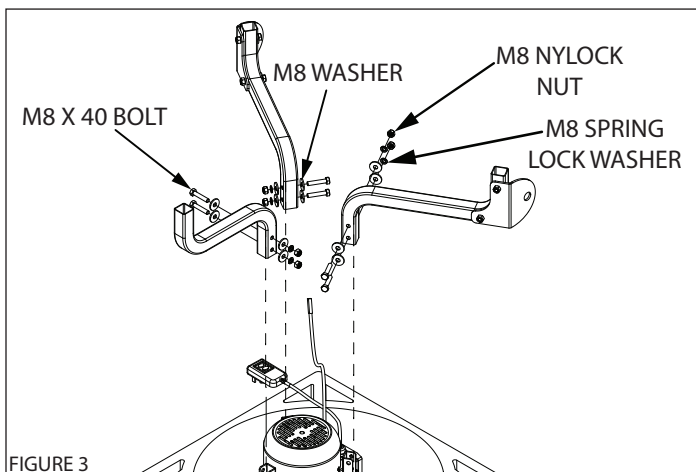

FIGURE 3
5. Assemble legs to gear-motor/feather pan assembly. (**SEE FIGURE 3**)
NOTE: Each leg is unique and not interchangeable. The long legs with the axle brackets attached should be assembled so that the axle brackets are parallel with each other. (SEE FIGURE 3)